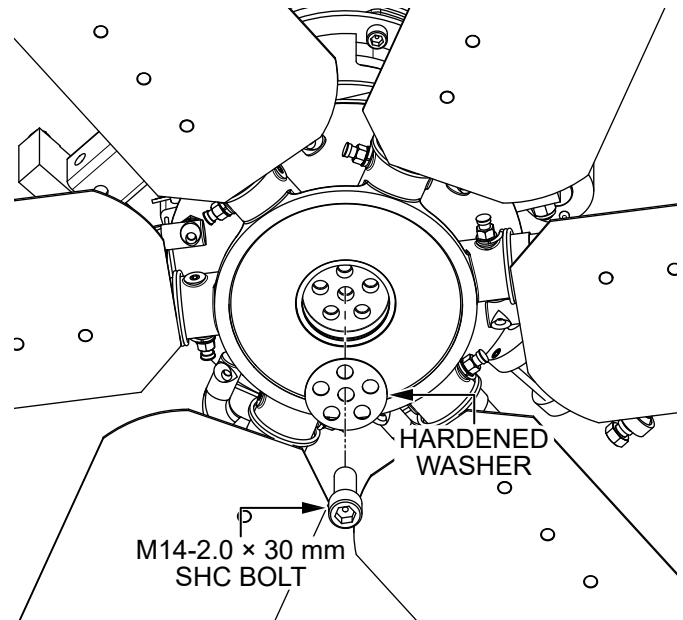

Figure 60. Install New Center Bolt And Washer
7. Install the new **M14-2.0 × 30 mm SHC bolt** in the *center position* along with a **new hardened washer** as shown in Figure 60. Torque the center bolt to 40 lbf-ft (54.2 N·m).